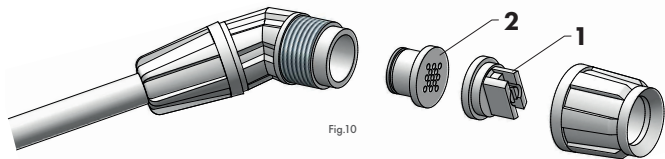
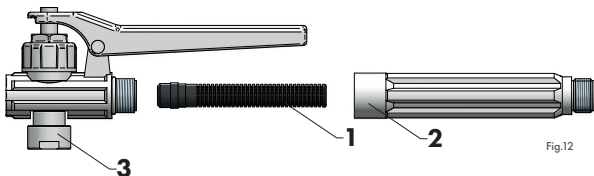

Fig.10
Fig.12
Move the foamer to the work site. Use the piston rod (fig. 7c) to pump the sprayer (around 20 full motions) until the safety valve operates (fig. 7a/pos. 1). As soon as the safety valve opens (fig. 7a/pos. 1), maximum tank pressure has been reached. Monitor the tank pressure on the pressure gauge (fig. 12/pos. 3).
Point the lance tip (fig. 10) at the location to be sprayed.
During operation, the pressure in the tank will decrease. Monitor the pressure on the pressure gauge (fig. 12/pos.3). Restore the tank pressure by pumping.
The filter (fig. 12/pos. 1) located on the lance handle (fig. 12/pos. 2) and the foamer insert and nozzle (fig. 10/pos. 1 and 2) located at the lance tip (fig. 1/pos. 1) must be cleaned periodically and before any prolonged downtime.
Clogged foaming insert or nozzle on the lance tip (fig. 10/pos. 1).	Unscrew the lance tip and remove the foaming insert and the nozzle (fig. 10/pos. 1). Clean and reassemble.